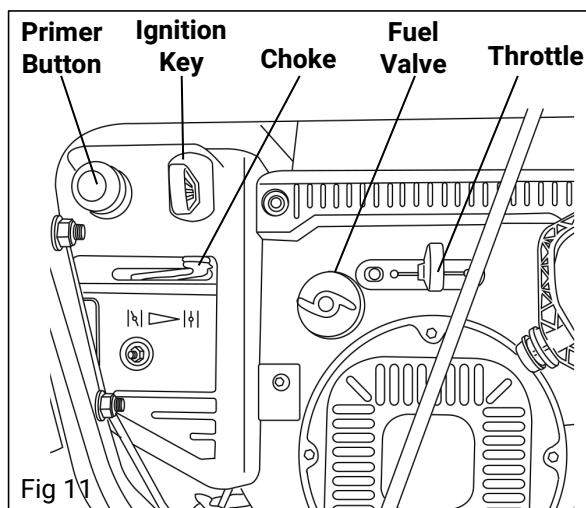

Fig 11
1. To start a cold engine, move the choke to the CHOKE position (to the left). To restart a warm engine, leave the Choke in the RUN position (to the right). (See Figure 11).